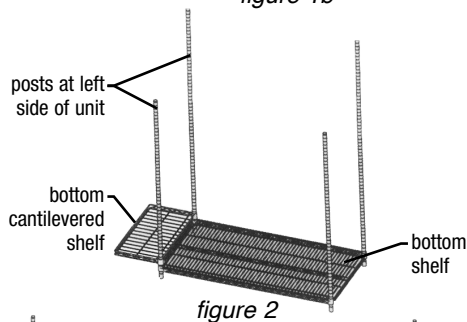

figure 2
- Slide shelf down posts and onto split sleeves (see *figure 2*).